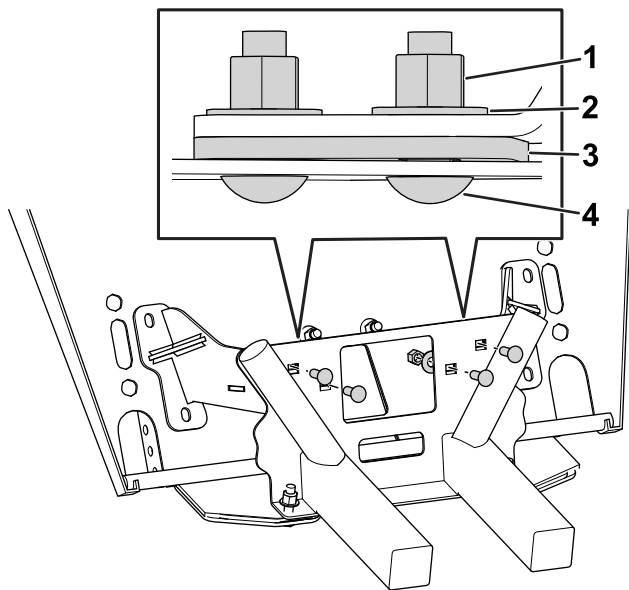

Figure 2
6. Use 4 carriage bolts (3/8 inch), 4 washers, 4 nuts (3/8 inch) and 2 spacers to loosely secure the support mounts to the vehicle frame (Figure 2).
Note: Figure 2 illustrates the full spacer included in this kit. Use the appropriate set of spacers for your vehicle.